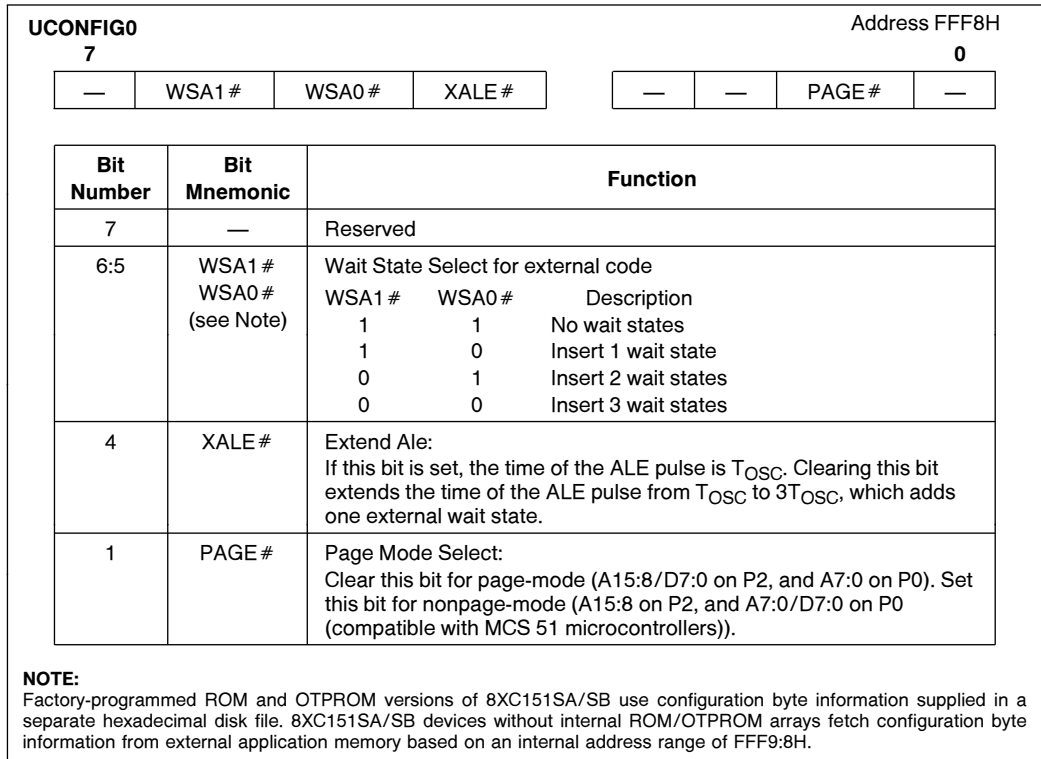
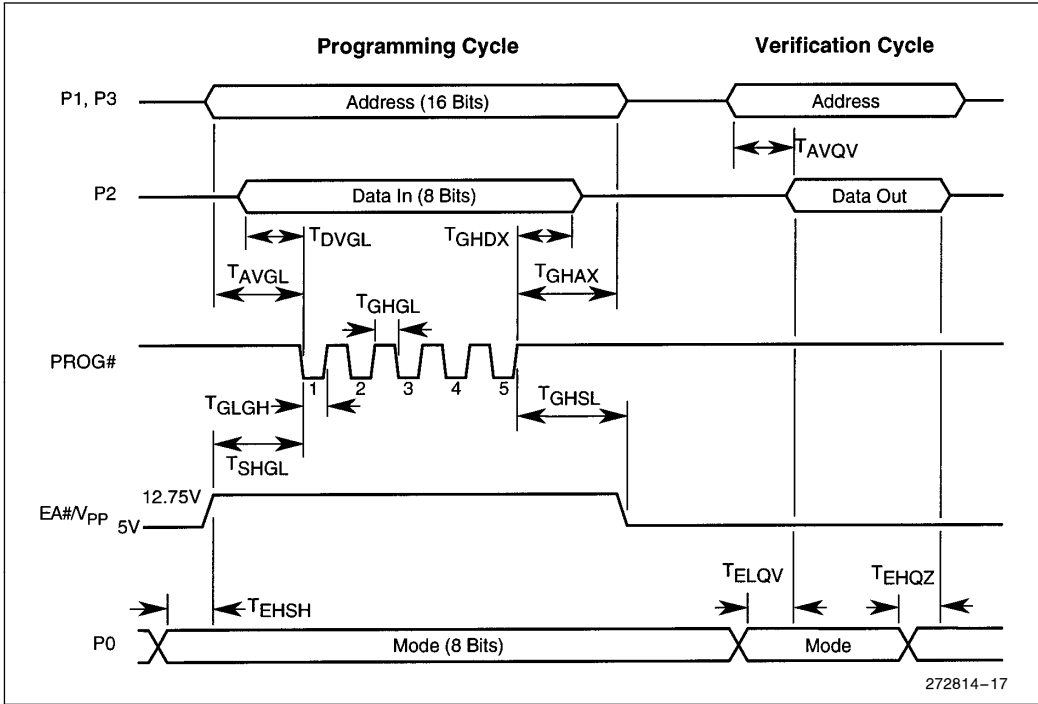

Figure 17. Configuration Byte 0
Figure 19. Timing for Programming and Verification of Nonvolatile Memory
Information in Figures 17 and 18 define the configuration bits. Figure 19 shows the waveforms for the programming and verification cycles, and Table 12 lists the timing specifications. The signature bytes of the 83C151SA/SB ROM versions and the 87C151SA/SB OTPROM versions are factory programmed. Table 13 lists the addresses and the contents of the signature bytes.
1. The PROG# pulse waveform is shown in Figure 19.